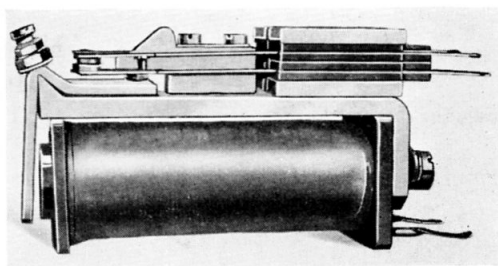

Fig. 2. Typical K3000 relay for high-voltage applications
4. In fig. 2 is illustrated a typical relay for high-voltage applications. It is essentially of similar construction to the low-voltage types, but the coil and spring-set insulation are suitable for 250-volt working, and the spring-set is fitted with heavy-duty elkonite contacts.